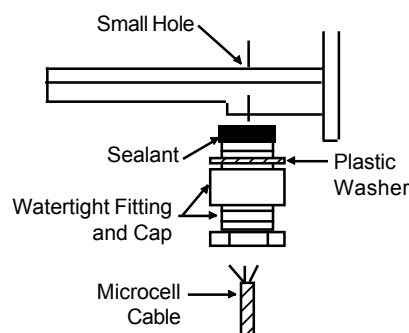

Figure 6-17. Inserting Microcell Cable through Watertight Fitting and Cap
2. See Figure 6-17. Place a plastic washer on a watertight fitting. Thread the Microcell cable through a cap and watertight fitting. Leave an adequate length of cable between the Microcell and fitting to provide a drip loop (see Figure 6-18).